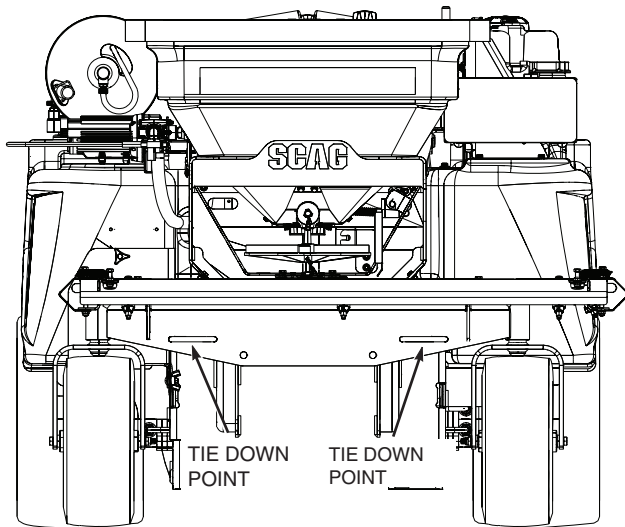

Figure 2-2. Front Tie Down Points
26. Tie the machine down securely using the tie down points located on the front and rear of the machine. See Figure 2-2 and 2-3. Secure using straps, chains, cables, or ropes. Both front and rear straps must be directed down and outward from machine.